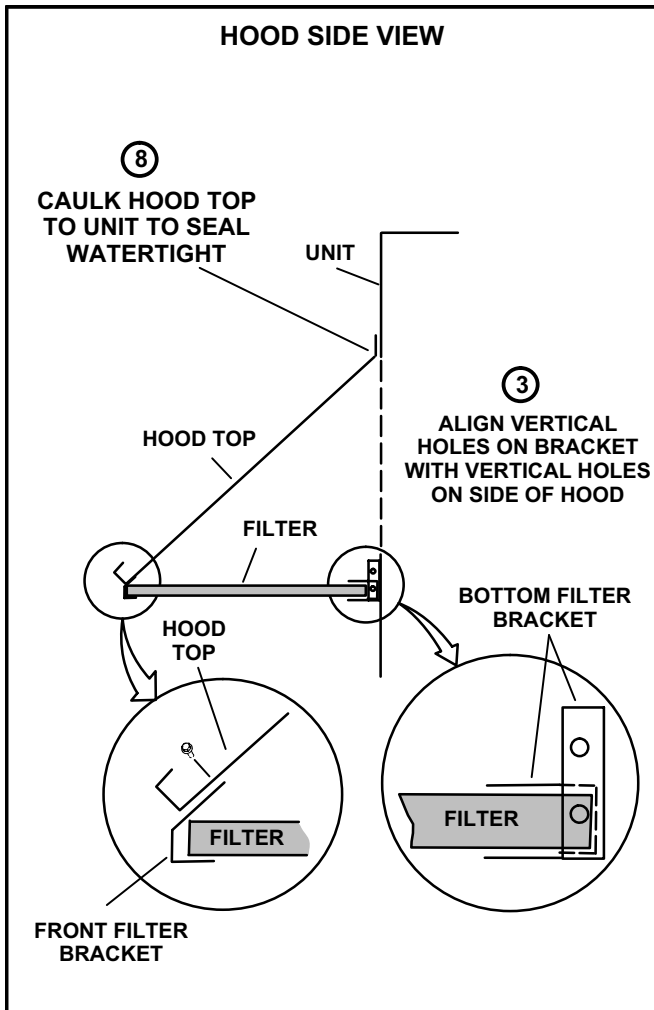

FIGURE 11
- 7- Install front filter bracket on the left side of the hood. Secure with three screws. See figure 11 and 12.